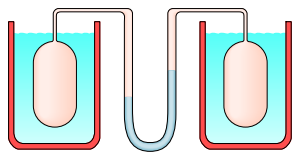

Figure 18.7 Problem 3.
**3 E** A gas thermometer is constructed of two gas-containing bulbs, each in a water bath, as shown in Fig. 18.7. The pressure difference between the two bulbs is measured by a mercury manometer as shown. Appropriate reservoirs, not shown in the diagram, maintain constant gas volume in the two bulbs. There is no difference in pressure when both baths are at the triple point of water. The pressure difference is 120 torr when one bath is at the triple point and the other is at the boiling point of water. It is 90.0 torr when one bath is at the triple point and the other is at an unknown temperature to be measured. What is the unknown temperature?